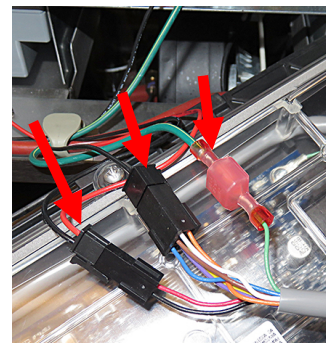

Figure 8
9. Locate and disconnect the current vat locator, speaker wire and ground wire from the rear of the controller (see Figure 8).